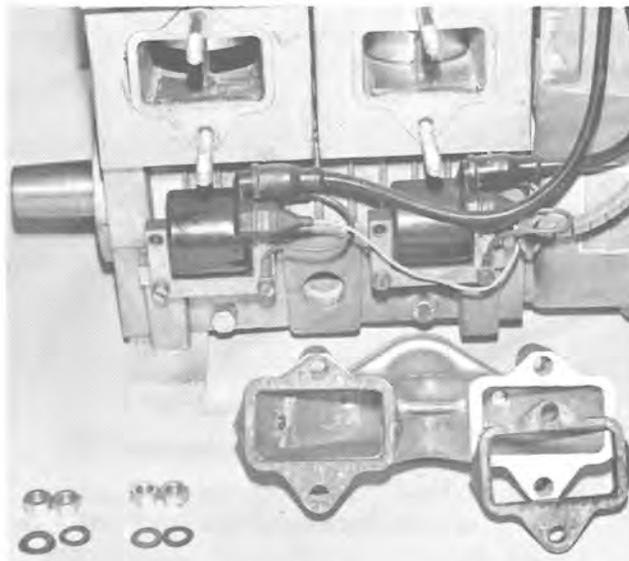

FIG. 1-41
Install spacers, gaskets and intake manifold (Fig. 1-41). Torque nuts evenly to sixteen (16) to (18) foot pounds.